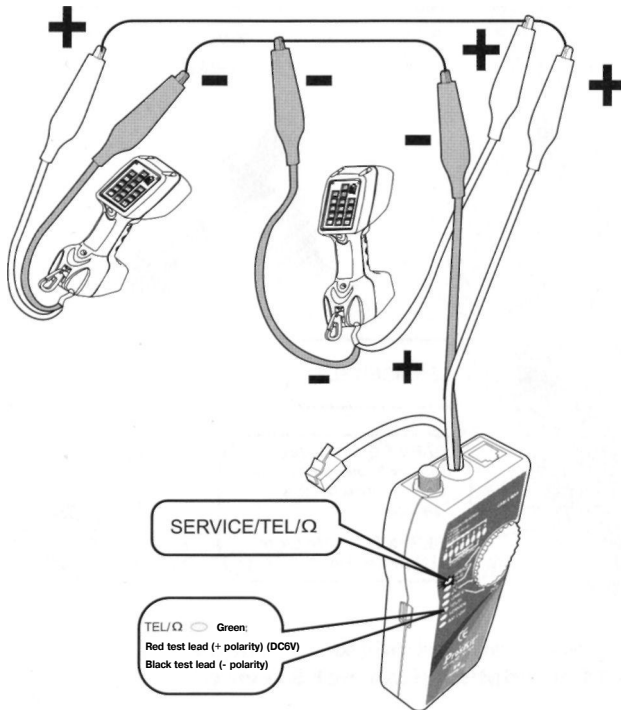

Figure 10 Powering a Telephone Test Set
The Toner can supply 6V into a 600Ω circuit to power telephone test sets (Hand set/Butt set) when Central Office battery power is not present. (Fig 10)
1. Connect the Toner to the voice circuit as shown in Figure 10.